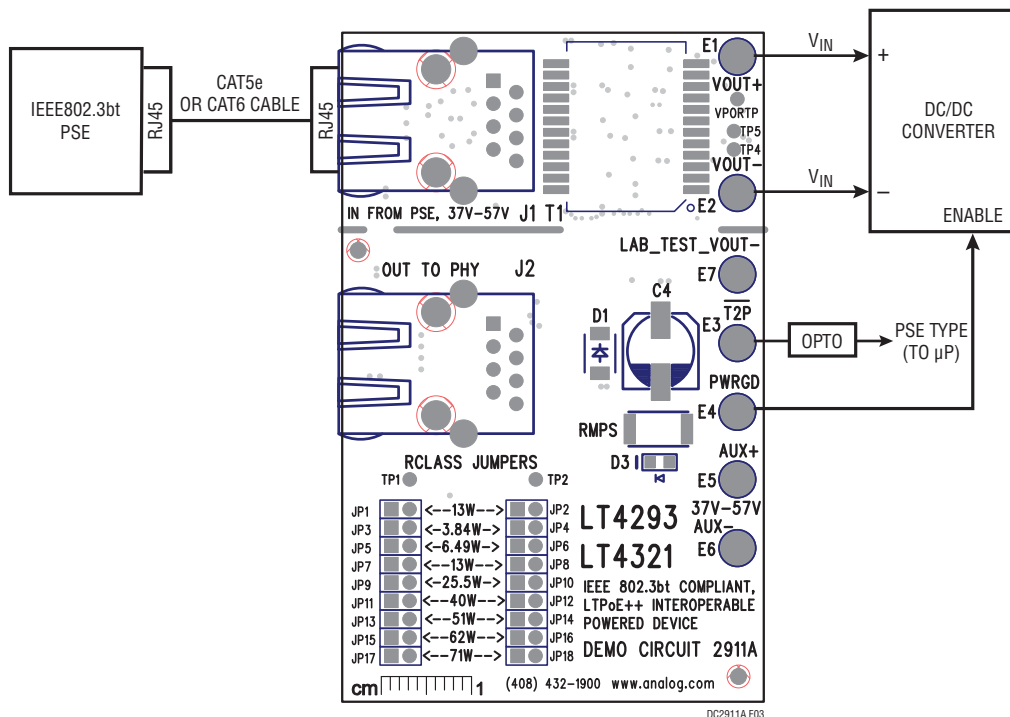
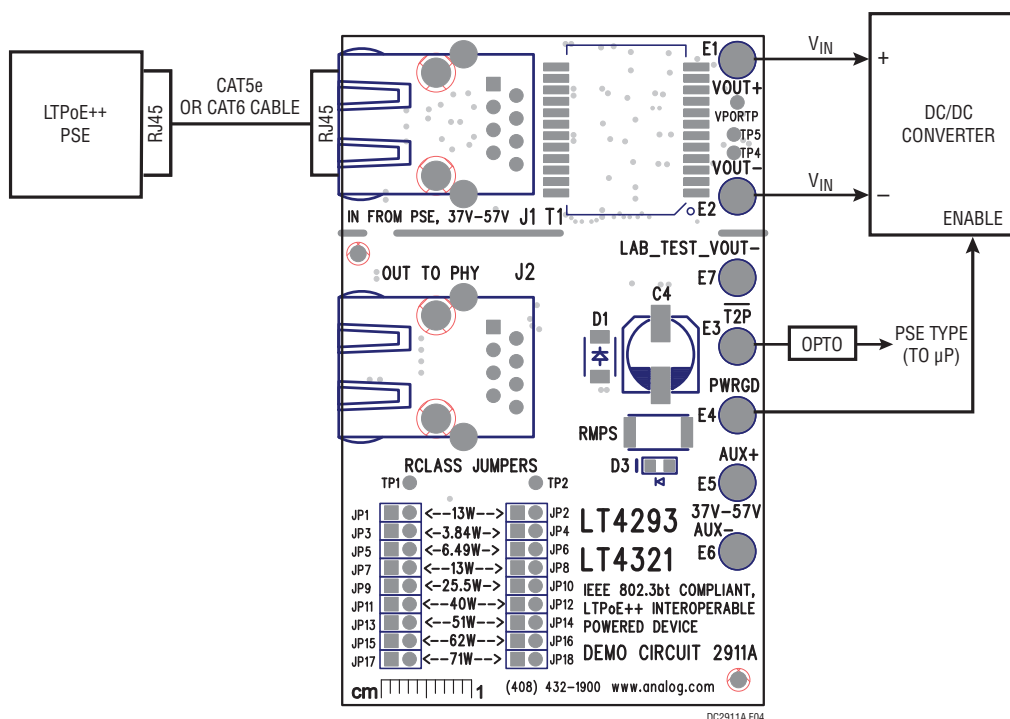
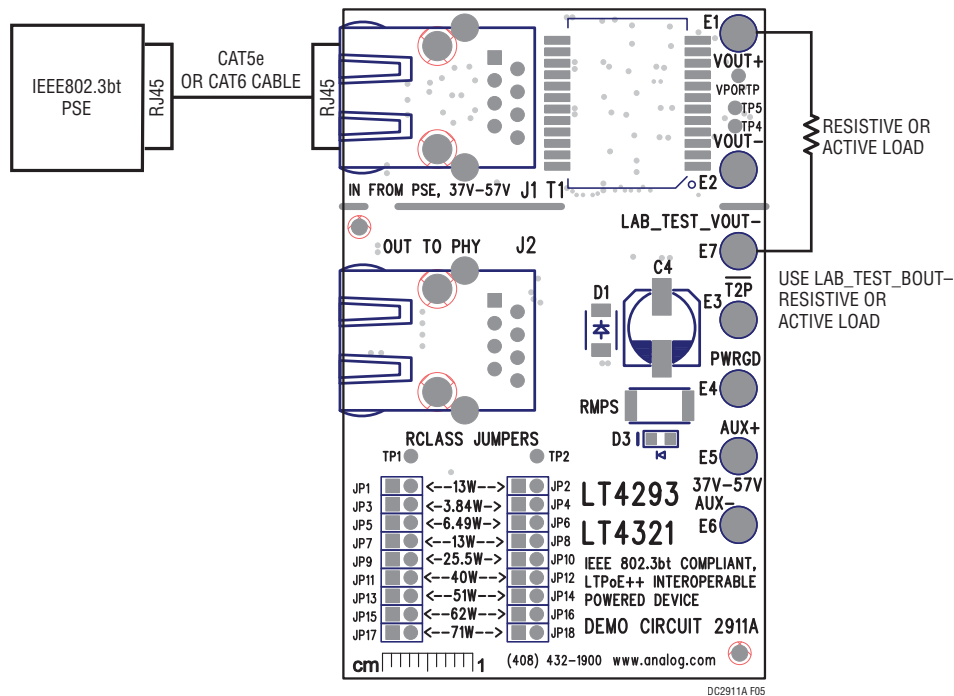

Figure 3. Setup Diagram for DC2911A with a DC/DC Converter, a Microprocessor, and an IEEE 802.3bt PSE
Figure 4. Setup Diagram for DC2911A with a DC/DC Converter, a Microprocessor, and an LTPoE++ PSE
Figure 5. Setup Diagram for DC2911A with a Resistive or an Active Load. Do Not Capacitively Load LAB_TEST_VOUT-
2. Refer to Figure 3 or Figure 4 to evaluate the DC2911A with a DC/DC converter. If a resistive or an active load is used to evaluate the DC2911A, use the setup diagram as shown in Figure 5.